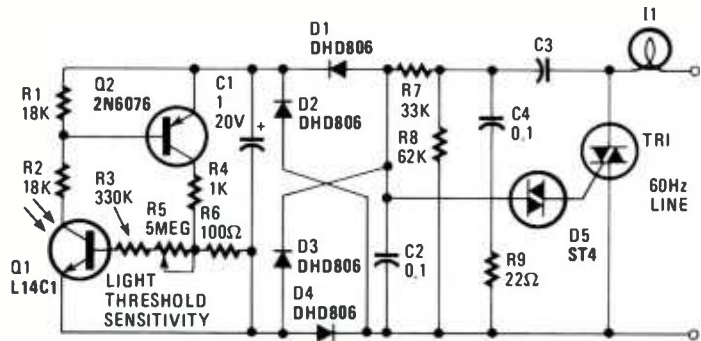

FIG. 8
C.K., of Secaucus, NJ asks about an automatic switch to turn on his outside yard lights when dusk falls. No problem at all, C.K. See Fig. 8. You'll find stable threshold characteristics due to the dependence on the photo-transistor current to generate a base-to-emitter voltage drop across the sensitivity resistor (R5). The double phase-shift network supplying power to D5 (an ST4 triac driver or diac)